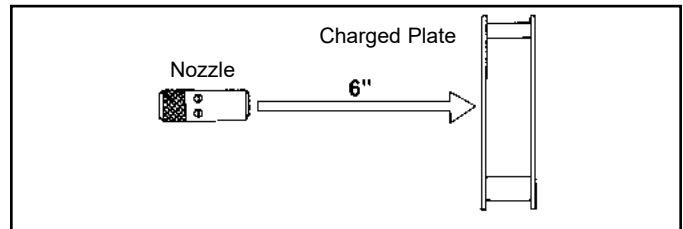

Figure 8. IEC 61340-4-7 decay time test setup
2. Refer to figure 8 - Test location for compressed gas - Guns or nozzles on page 13. CPM needs to be 6" from the center of the CPM plate to worksurface. Tip of air nozzle needs to be at 6" (15 cm) away from surface of CPM plate.